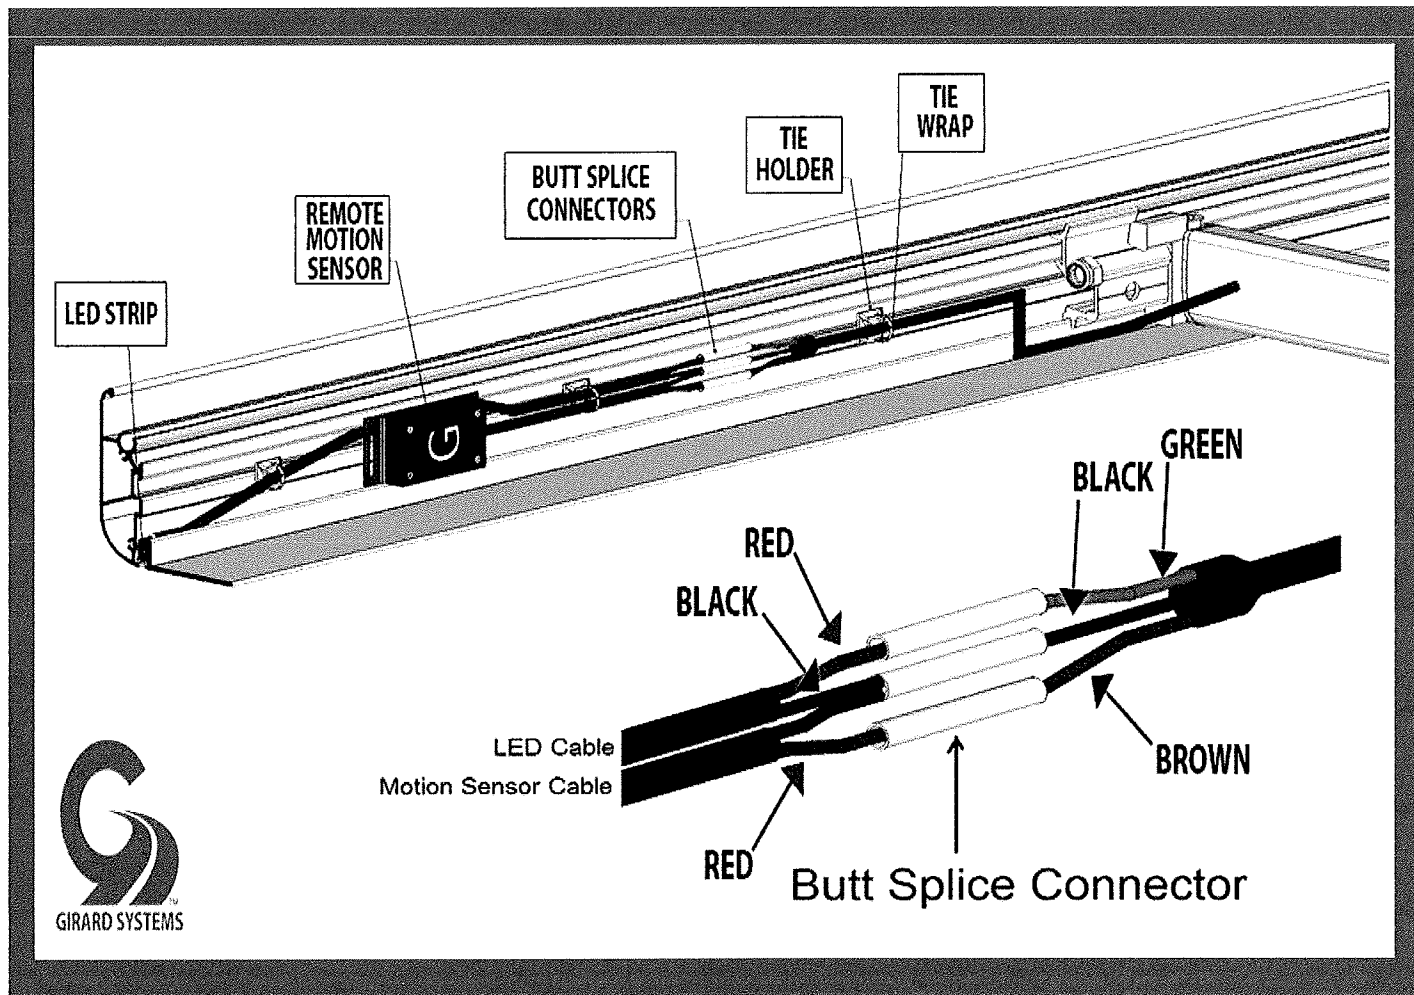

Figure 2
- P. Following the diagram included in these instructions (Figure 2). Orient all of the wiring per diagram. Connect the wires to the Wire Tie Brackets using the Wire Ties included in this KIT. Ensure that all wires are securely in position, and will not interfere with the operation of the Awning.